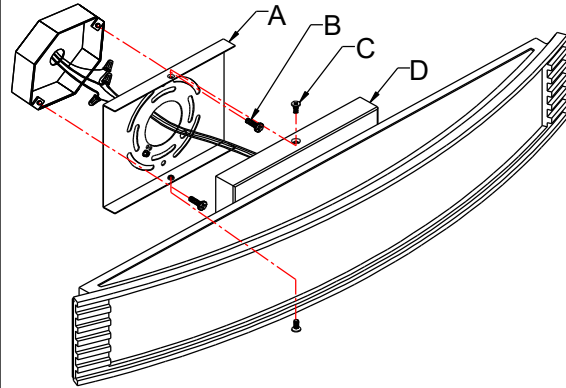

Fig. 2
CONNECTING THE WIRES (Fig. 2)
5. Connect the electrical wires as shown in Fig. 2, making sure that all wire connectors are secured. If your junction box has a ground wire (green or bare copper), connect fixture's ground wire to it. Otherwise, connect fixture's ground wire directly to mounting plate (A) using green screw provided.